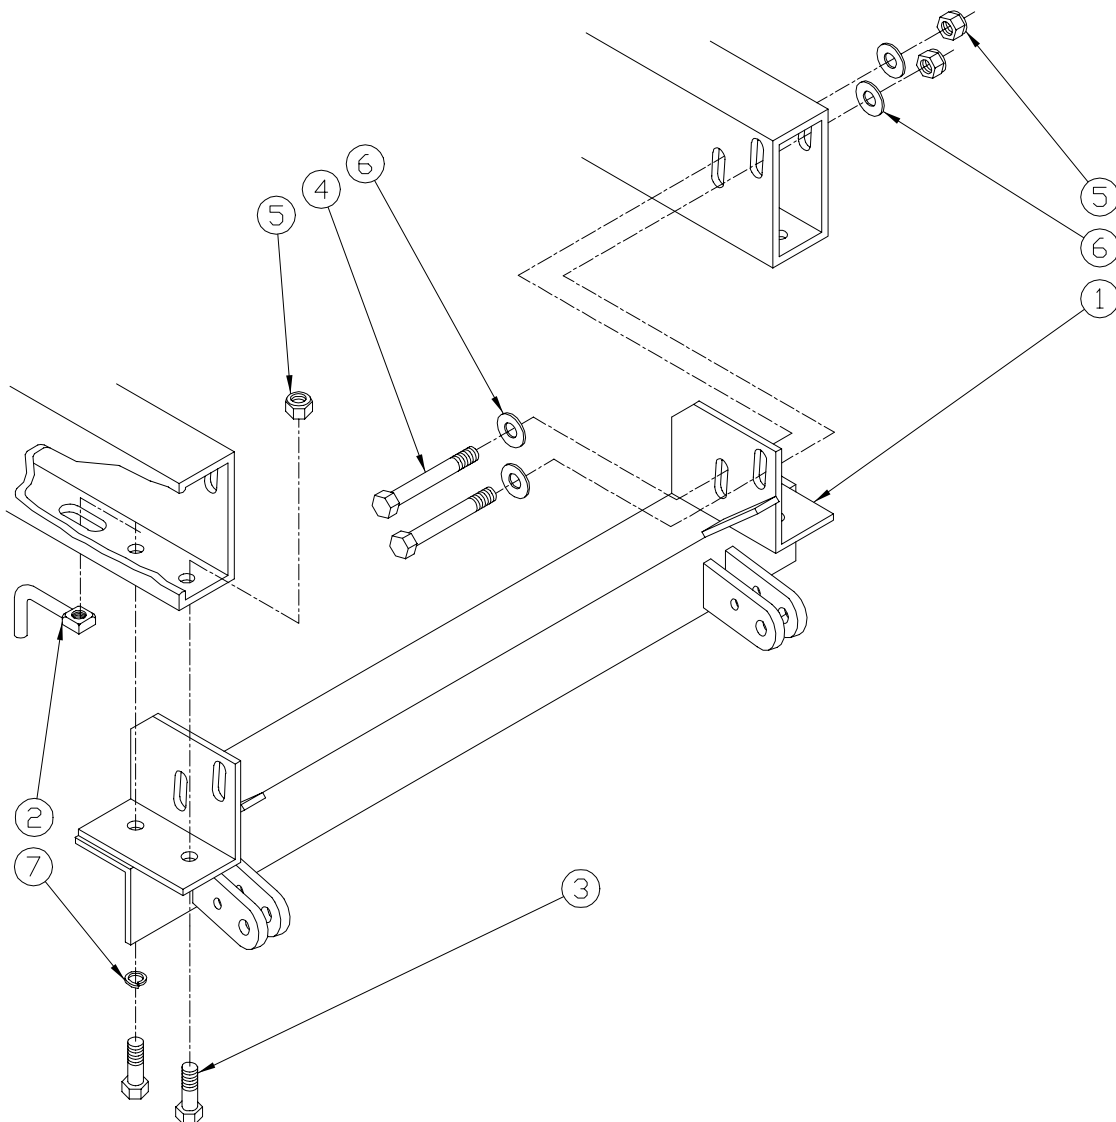

Figure 1
4. Position baseplate between frame beams. (See Fig. 1) Bolt the baseplate to the frame using the four 1/2" x 4" bolts. If the baseplate does not fit snugly between the beams, you will need to put washers between the baseplate and the frame beam on one or both sides. Two 1/2" flat washers have been provided for this purpose. If more washers are needed you can purchase them at any hardware store. These bolts will be removed later so tighten them only enough to hold the base plate in position.
6. Using the four 1/2" x 1 3/4" Grade 5 bolts provided, bolt the baseplate to the frame beams. Be sure to use the correct hardware. [See Fig.1]